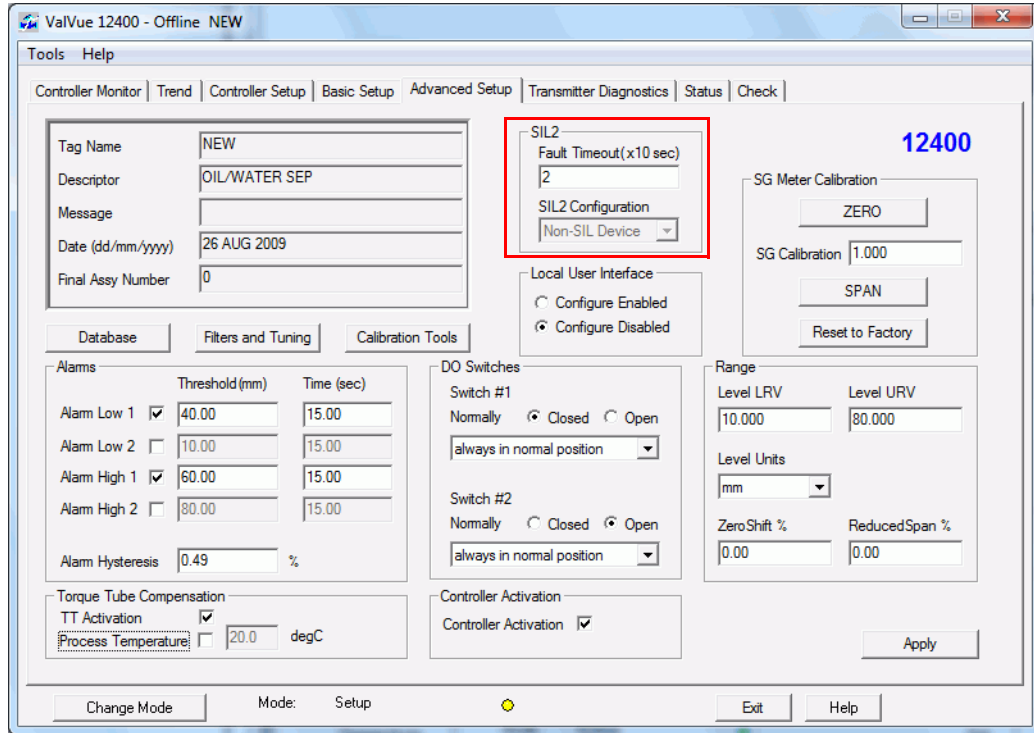

Figure 165 Selecting Button Locks - Configure Disabled
1. Click the required radio button, as shown in Figure 165.